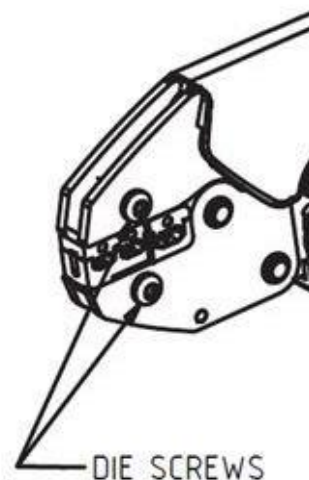

Figure 4
1. Remove die screws from frame using T20 Torx wrench (See Figure 4).